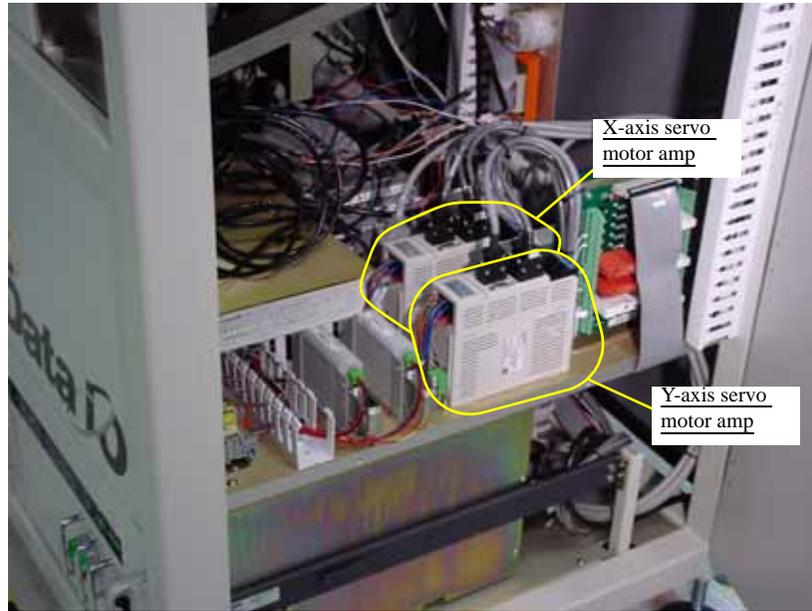

Figure 6-9—X-axis and Y-axis servo motor amps
- 1b) Open right side cabinet door and locate the X-axis and Y-axis servo motor amps. See Figure 6-9.